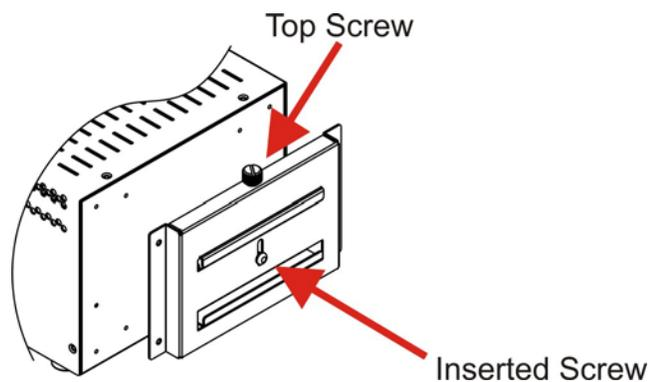

Figure 4-10: Screw Locations
Step 8: Make sure the inserted screw in the center of the bracket is at the lowest position of the elongated hole (**Figure 4-10**).